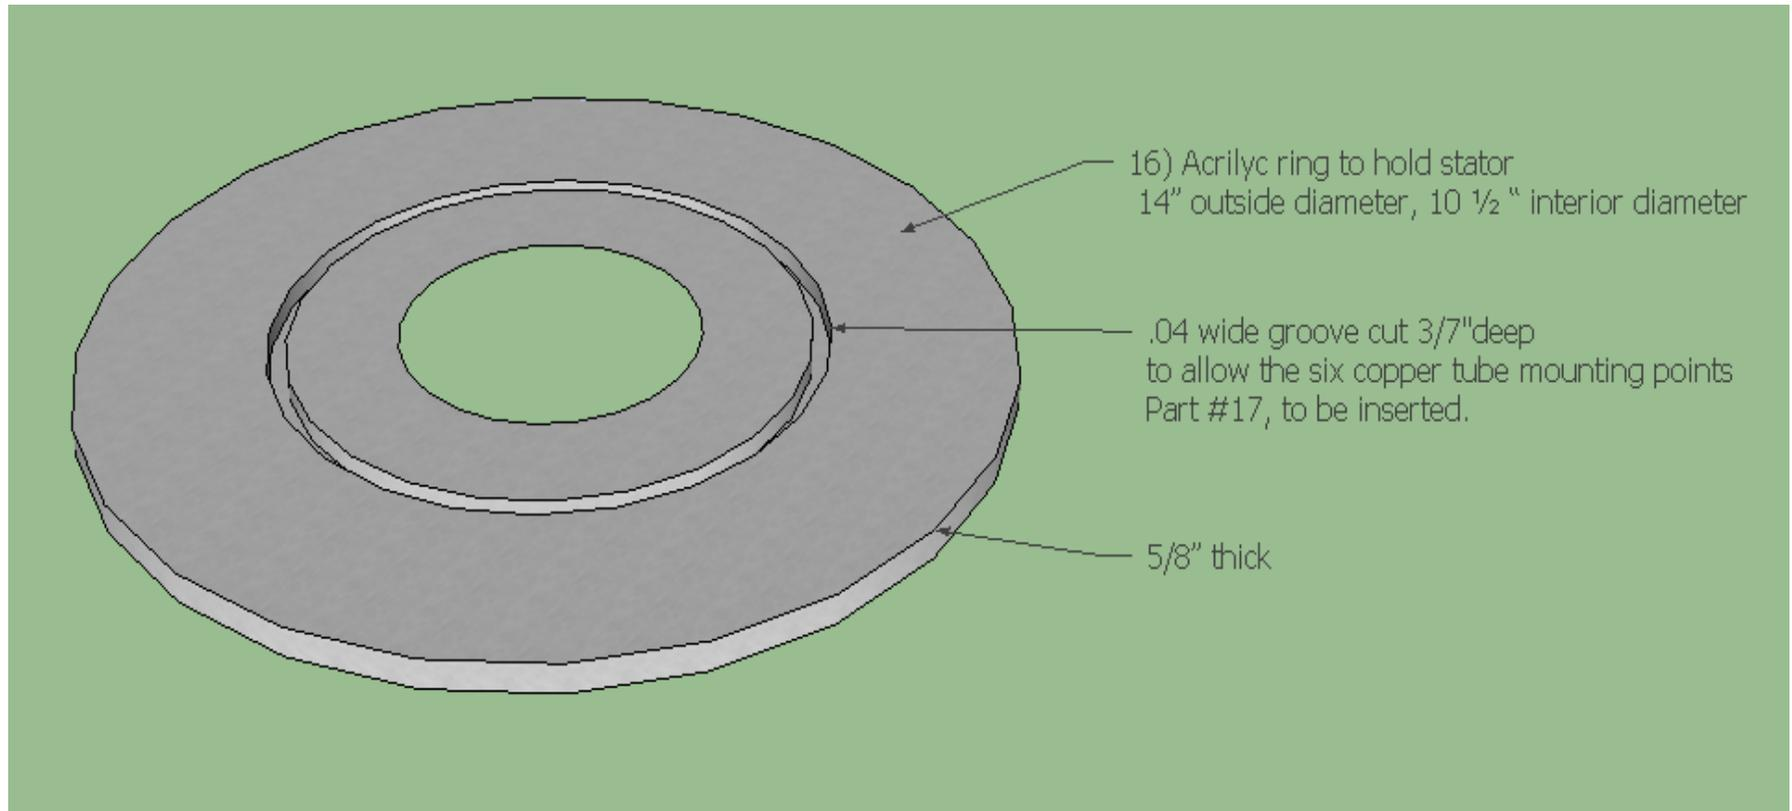

Figure 12.
- 16) Then make an acrylic ring to hold the copper tube in place. The acrylic ring dimensions are 14" outside diameter, 10 ½" inside diameter, 5/8" thick. It should be bolted on to the aluminum plate directly. This ring should have a groove which is .040 wide. The grove is cut to about 3/7" deep so it could allow the six copper tube mounting points to be inserted (Figure 12).